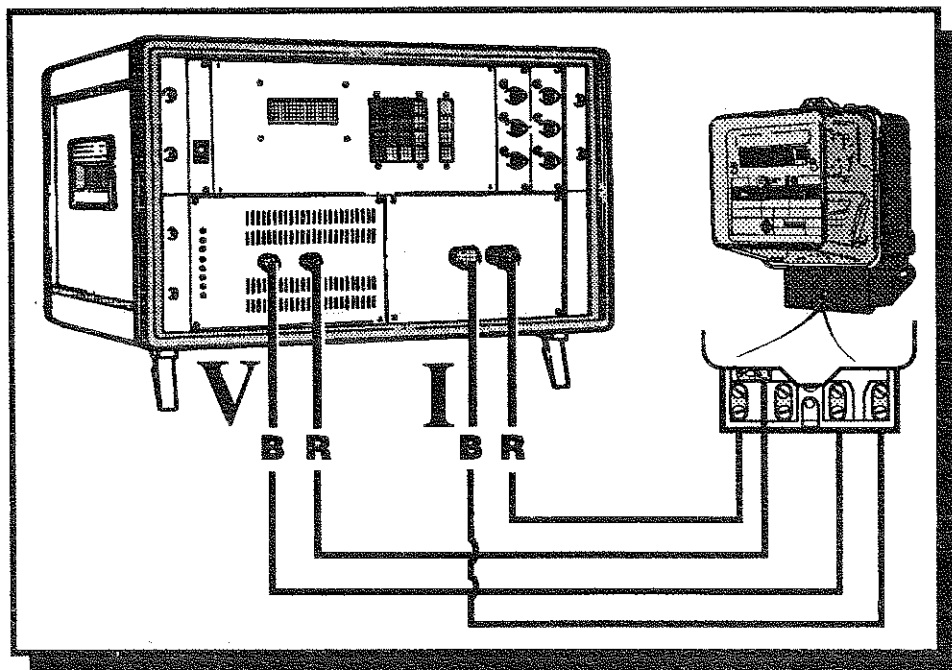

Fig. 5.4.1 Connection of a single kWh meter
- 5) Connect the UT to the MTB1 as indicated in Fig. 5.4.1
- 19) Observe that the specified current and voltage levels are displayed in the display window. Also observe that the rotating disk of the UT is turning from left to right. *(If the disk is turning the other way round, please ensure that the UT is connected as indicated in Fig. 5.4.1)*